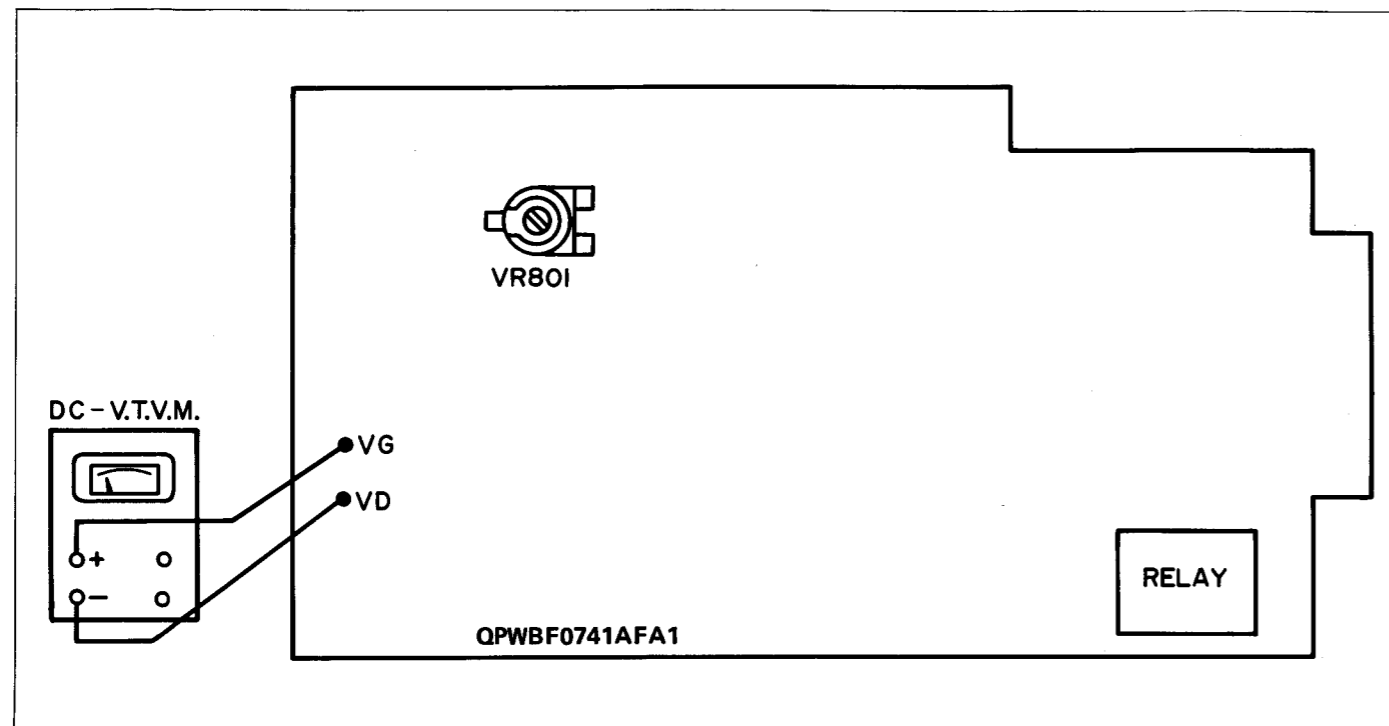
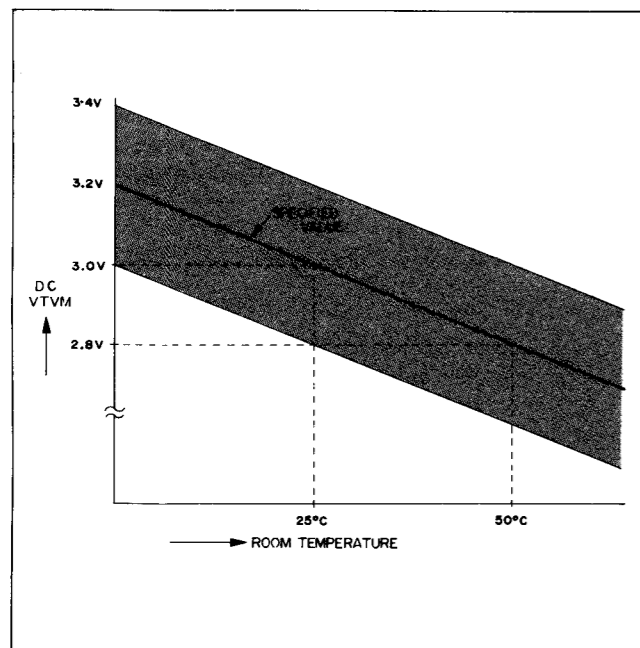

Figure 17
Figure 18
1. Prior to replacement of the control unit, be sure to check for its power supply source after disconnecting the flat cable. Insert the power supply plug into a wall outlet and use a DC-VTVM to measure a voltage between the terminals VG and VD of the power P.W.B. (QPWF0741AFA1). (See Figure 17) At the time make sure that the DC-VTVM is within the indication in Figure 18.
Figure 18 shows the relation between the room temperature (in the horizontal axis) and the voltage amount indicated by the VTVM (in the vertical axis). Referring to the figure, check that the measured voltage is within ± 0.2 V of the specified value.
The transistor (Q819) serves to change the supply voltage to the control unit as shown in Figure 18. This is for the purpose to make the LCD in the control unit visible normally always regardless of a temperature fluctuation in the room.